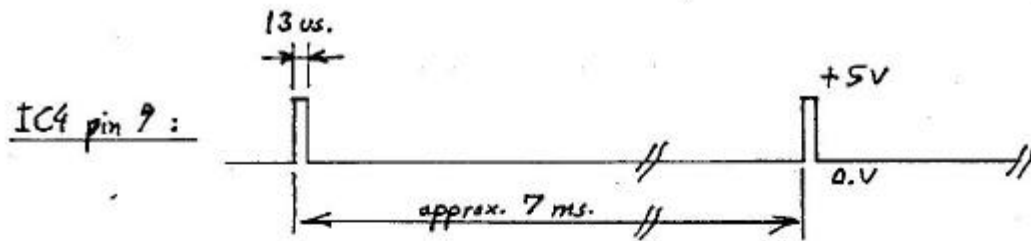

Fig.7. IC4 pin 9 while machine in UNLOAD.
- 6: If the PANEL CONTROL SYSTEM is running, the oscilloscope display will show the signal given in figure 7. The length of the "HIGH" period at channel 1 must be approx. 13 us, and the intervals between the pulses will be approx. 7 ms.